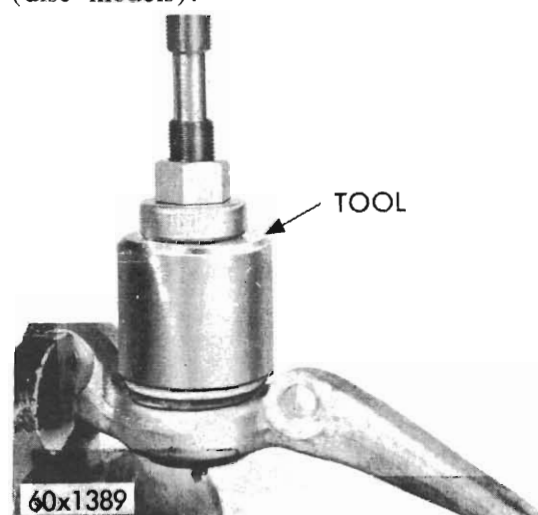

Fig. 13 - Installing lower ball joint seal using Tool E2C20A
(1) Place a new seal over the balljoint making certain the lip of the seal is seated on the balljoint housing using Tool E2C20A (refer Fig. 13).
(2) Position the steering arm and ball joint assembly on the steering knuckle and install the two mounting bolts and nuts and tighten to 100 lbs. ft. torque (drum models) or screws and tab lock washers and tighten to 115 lbs. ft. torque (disc models).